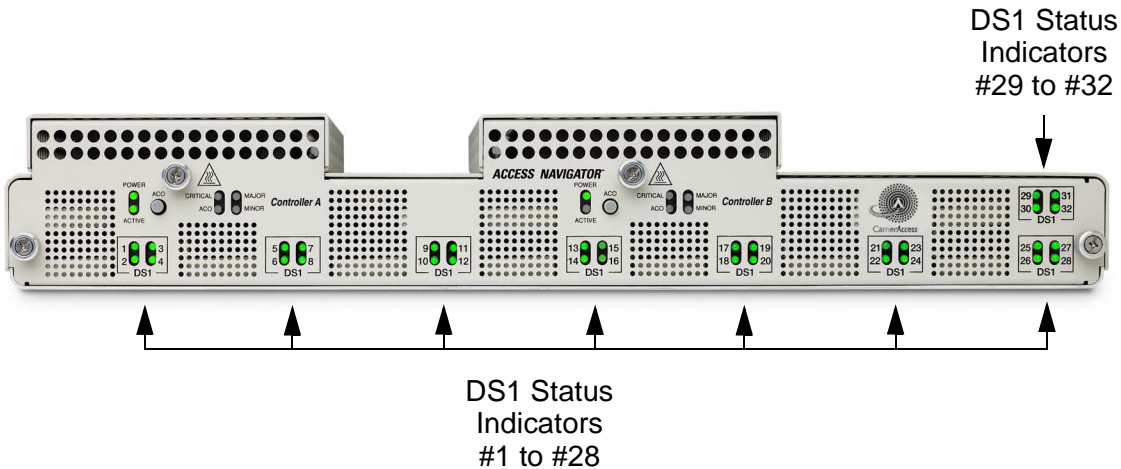

Figure 16-12. Location of Front DS-1 Status Indicators
3. Verify the following front panel status indications (see Figure 16-12).